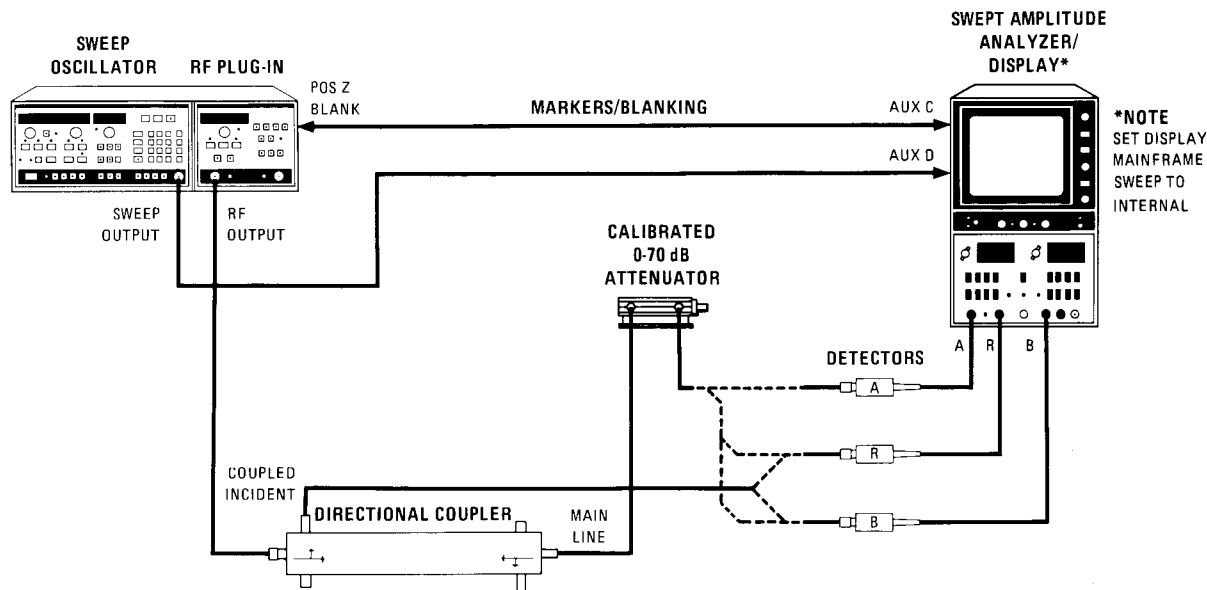

Figure 4-1. Amplitude Accuracy Test Setup
DESCRIPTION: The 8755C is connected as shown in Figure 4-1. An initial calibration of gain within the oscilloscope display is made. Then precision attenuators are used to vary the input level to the channel under test. With no attenuation, a reference level is set. Attenuators are then inserted in 10 dB steps and the resulting response is measured.
- a. Connect equipment as shown in Figure 4-1 with detector R connected to incident coupled port of directional coupler and detector A connected to 0-70 dB Step attenuator. Set 0-70 dB Step attenuator to zero dB.